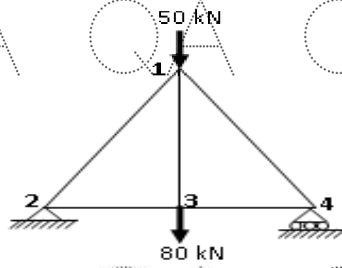

Figure. 6
7. Find the vertical deflection at the node '3' of a plane truss supported and loaded as shown in Figure.6. Assume the axial rigidity is the same for all the members of the truss. Use Unit Load Method. [10]